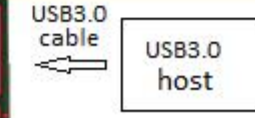

Figure 1, the test setup of test section 1 thru 5
In order to facilitate the evaluation test, the PI3USB30532 EV board has 5 test sections 1 thru 5. Please refer to figure 1, table-1, table-2 and the configuration table below for the test setups.
2. Connect 5V power supply as in figure 1 for all the tests.
3. Setup as in figure 1 for each individual test and individually perform the tests 1 thru 5.